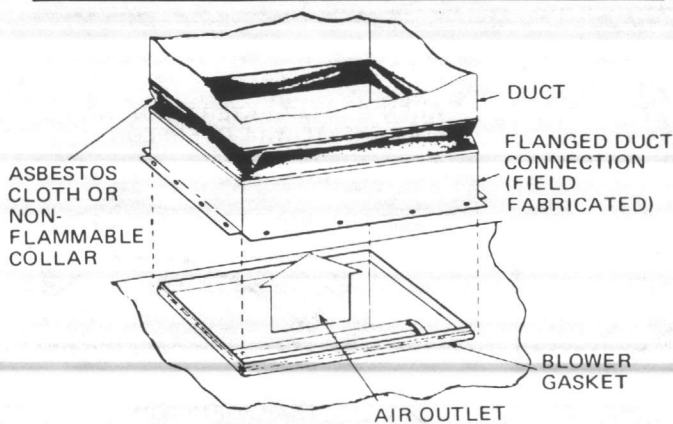

FIG. 7— SUGGESTED METHOD FOR CONNECTING DUCTWORK
4. Asbestos cloth collars or other non-flammable material should be used to connect the unit to prevent transmission of noise and vibration. (See Fig. 7.)